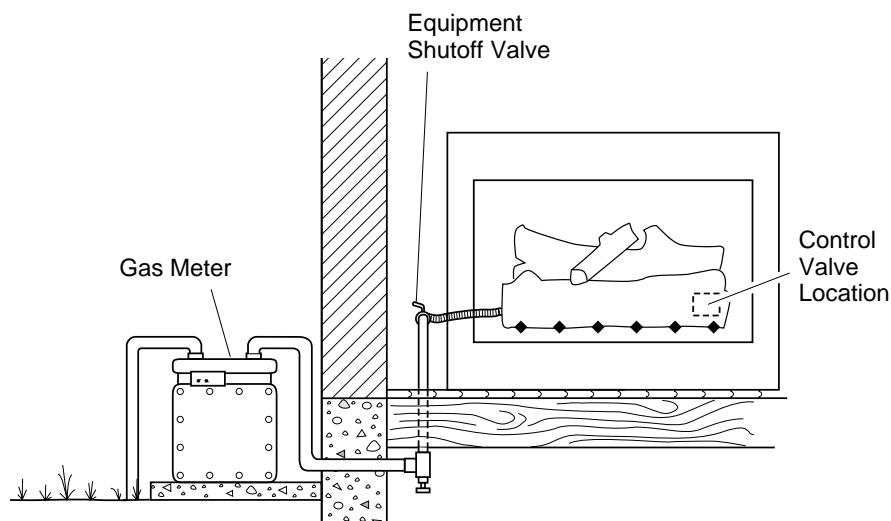

Figure 15 - Checking Gas Joints
3. Check all joints from gas meter to equipment shutoff valve (see Figure 15). Apply a noncorrosive leak detection fluid to gas joints. Bubbles forming show a leak.
4. Check all joints from equipment shutoff valve to control valve (see Figure 15). Apply a noncorrosive leak detection fluid to gas joints. Bubbles forming show a leak.